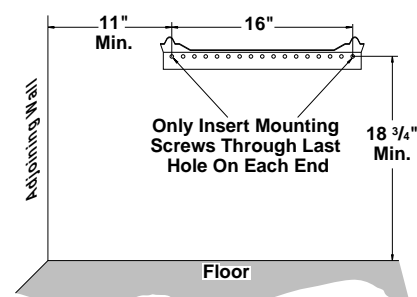

Figure 11 - Mounting Bracket Clearances
2. Mark screw locations on wall (see Figure 11).